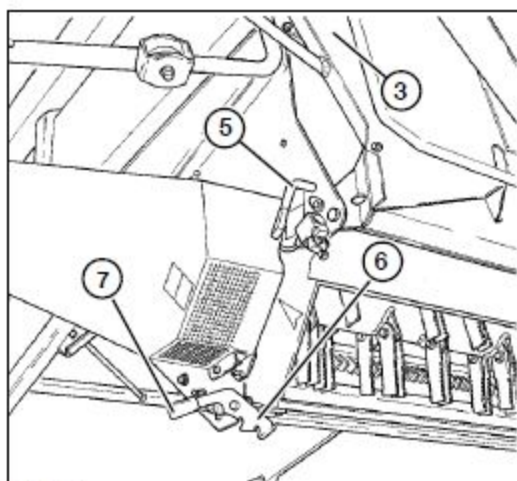

Fig. 23
Fig. 22 and Fig. 23
During road transport the straw chopper rotor must be secured and the spreader hood (3) must be in the working position, as shown in Fig. 22. When the combine tows the table trailer, the spreader hood (3) must be folded up, as shown in Fig. 23. To fold up the spreader hood, release the locking device (6) using the lever (7), fold up the spreader hood (3) and secure in the catch (5).